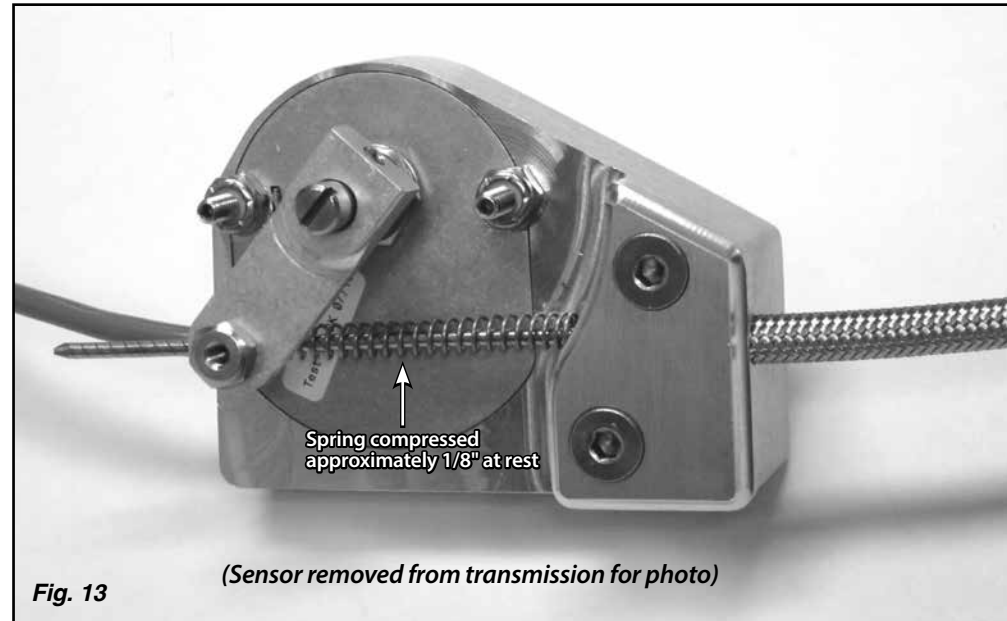

Fig. 13
Step 14: Make sure the transmission is in Park. **Push the sensor arm up against the spring, so that the spring is compressed approximately 1/8" at rest in Park. Fig. 13** Tighten the set screw in the index cable stop on the sensor arm using a 1/16" Allen wrench. Trim the excess inner wire, leaving about 1" protruding.